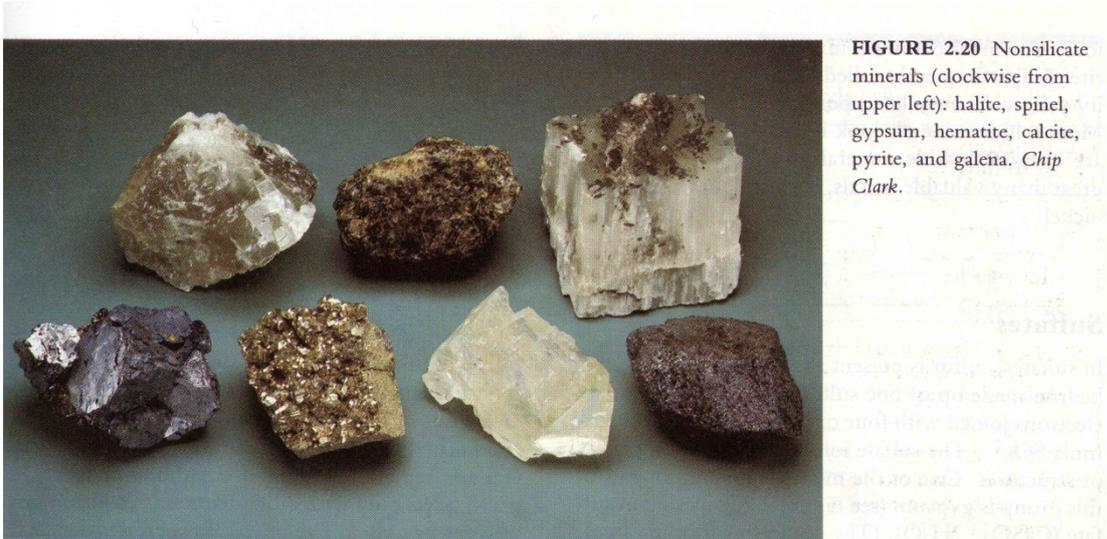

FIGURE 2.20 Nonsilicate minerals (clockwise from upper left): halite, spinel, gypsum, hematite, calcite, pyrite, and galena. *Chip Clark.*
**FIGURE 2.20** The mineral composition of two igneous rocks. (a) Granite contains mostly quartz (left), potassium feldspar (center) and small amounts of biotite (right). (b) Basalt is made up of some olivine (left), but contains mostly pyroxene (center), and calcium plagioclase (right). The sizes of minerals in these rocks depends on how rapidly they cooled from molten rock material (see Chapter 10). (Photos courtesy of Sue Monroe.)